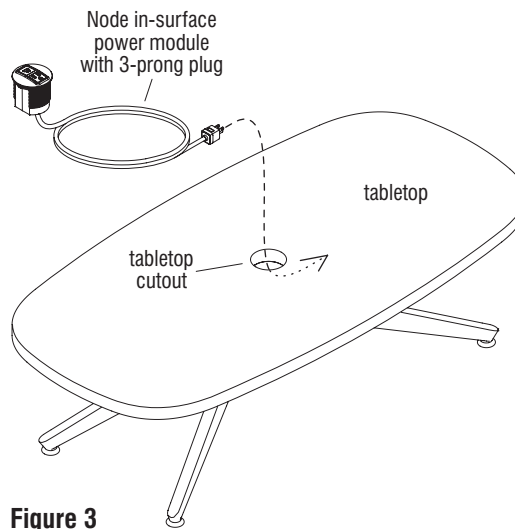

Figure 3
6. Carefully turn the table to the upright position (Figure 3).
7. Orient the Node in-surface power module consistently straight, as shown and route the plug end down through the tabletop cutout. Press the module down completely into the cutout assuring it is straight, and consistent with other tables if being assembled (Figure 3 & Detail A).